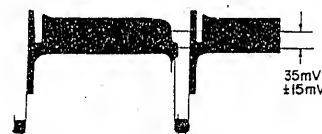

Fig. 4-6
5) Luma Setup Adjustment (Figs. 4-6, 4-52)